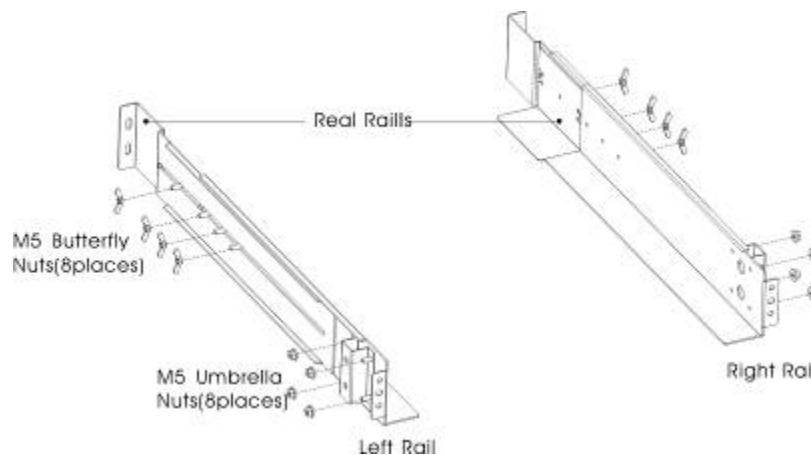

Figure 1 Securing the Rails
- *If installing optional EBP(S), make sure to install the EBP(S) directly below the UPS so that all wiring between the cabinets is installed behind the front covers and inaccessible to users.*
(1) To install the rail kit
- a) Assemble the left and right rails to the rear rails as shown in Figure 1. Do not tighten the screws.
- c) Tighten four M5 Umbrella Nuts in the side of rail assembly (see Figure 1).